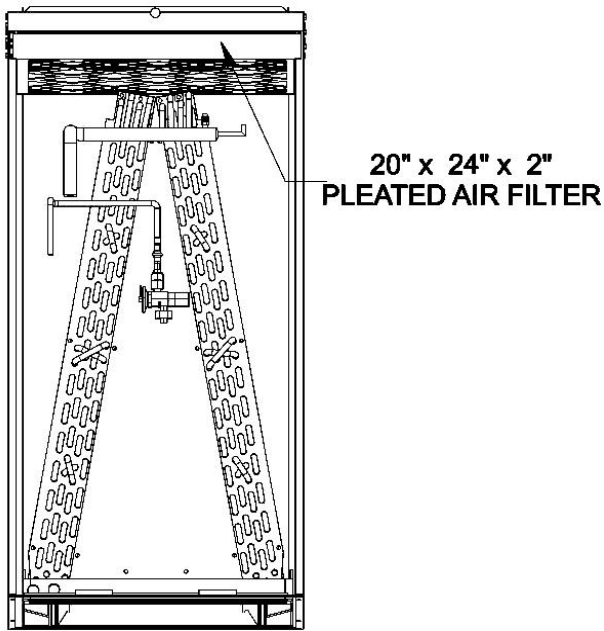

Figure 4: Coil Cabinet Top Return Pleated Air Filter Location.
4. Remove the air filter at the top of the coil cabinet. The 20” x 24” x 1” filter is a disposable filter. **DO NOT** attempt to clean the filter and reuse it. Refer to Figure 4 for filter location.
6. Slide the air filter into the filter rack at the top of the coil cabinet as shown in Figure 4.